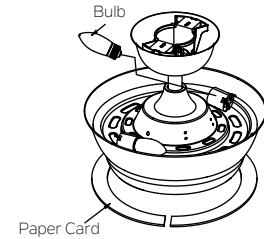

Fig. 18
Step 4. Install two (2) lamps 5W (included), one in each socket as shown. (Fig. 18) Remove the paper card from the motor body.